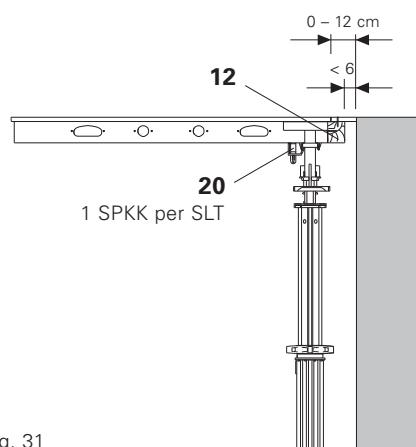

Fig. 31
- Drophead SFK (1)
- square-shaped timbers (12) are securely nailed before elements are assembled.
- Edge Beam SRT (9) or
- nail on Filler Timber SPH (11) before elements are assembled.
- 21 mm formlining provided by the contractor, additional prop with cross-head and formwork girder (15). Panel Wedge Clip SPKK (20). (Fig. 31 - 33)